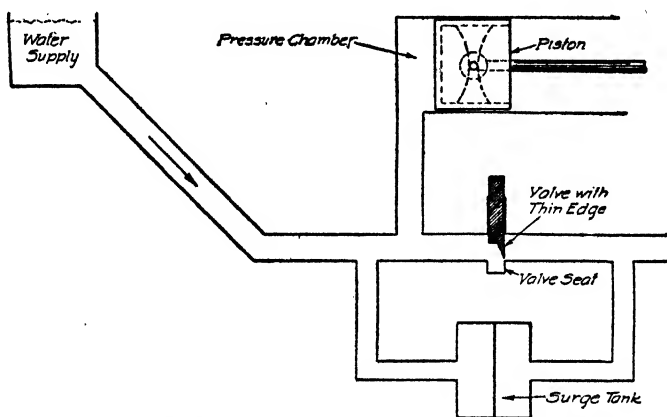

Fig. 61. Diagram Showing Hydraulic Analogy of Ignition System
In the hydraulic system, it takes the form of a surge chamber, as shown in Fig. 61. This chamber has an elastic diaphragm centrally placed in it, and the chamber itself is shunted, or connected, around the valve in the same manner as the condenser is connected to the contact points. When the valve begins to close, this surge chamber relieves the pressure to some extent during the operation of closing the valve and so protects the thin edge of the valve from bending. After the valve is fully closed, there is, of course, no further danger of its being bent over. In the electrical system, the condenser supplies similar protection, reducing the voltage at the timer contacts at the moment of separation and keeping this voltage reduced until they are fully open, thus preventing the current from bridging the gap, or *arcing*. Once the contacts are fully separated, the low-tension current cannot jump the air gap, so that there is no further danger of their burning.
*Transformer.* In order to utilize the pressure produced by the sudden closing of the valve, it is necessary to provide some transforming device, such as a pressure chamber. This is illustrated in Fig. 61, and it will be noted that it is of a much larger diameter than the pipe. As the pressure in the chamber and the pressure in the pipe will both have some unit value (measured in pounds per square inch), the total pressure on the piston will be to the pressure in the pipe as the area of the piston is to the area of the pipe. By the use of a pressure chamber of large diameter, compared to that of the pipe, a very considerable force is applied to the piston, but the